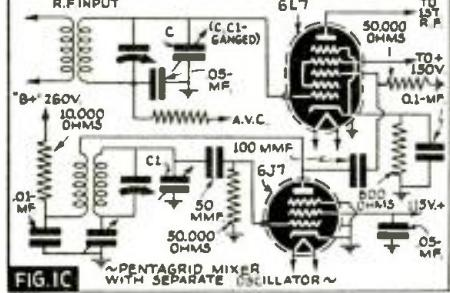

FIG. 1C ~PENTAGRID MIXER WITH SEPARATE OSCILLATOR~
(3) A Pentagrid Mixer (especially designed for shortwave or all-wave circuits), having 2 separate control-grids, 1 for the R.F. signal and 1 grid for the oscillator voltage, and used with a separate oscillator tube, as shown in Fig. 1C.
Similarly, if a resistance (having a constant impedance at all frequencies) of 10 ohms, is connected to the primary of the same transformer, it will cause a reflected impedance of 40 ohms to appear in the secondary. See Fig. 1C. Inasmuch as the impedance of the primary resistor will not vary with frequency, the secondary will likewise present a constant impedance at all frequencies.